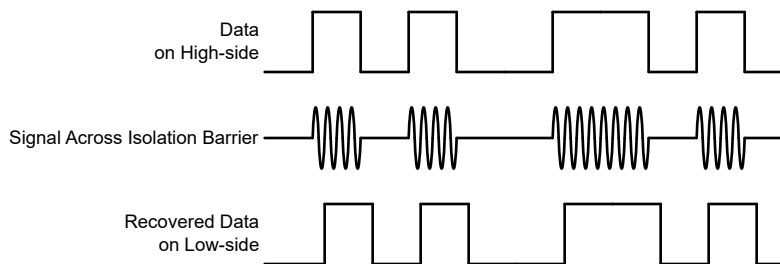

Figure 6-4. OOK-Based Modulation Scheme
The AMC22C12-Q1 uses an on-off keying (OOK) modulation scheme, as shown in Figure 6-4, to transmit the comparator output states across the SiO₂-based isolation barrier. The transmit driver (TX) shown in the Functional Block Diagram transmits an internally-generated, high-frequency carrier across the isolation barrier to represent a digital *one* and does not send a signal to represent a digital *zero*.